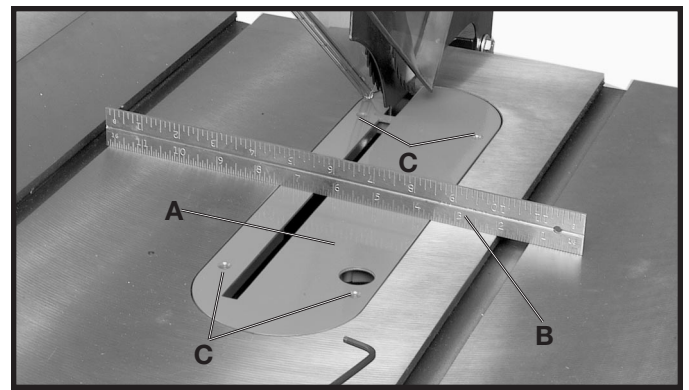

Fig. 46
Place a straight edge (B) across the table at both ends of the table insert as shown in Fig. 46.